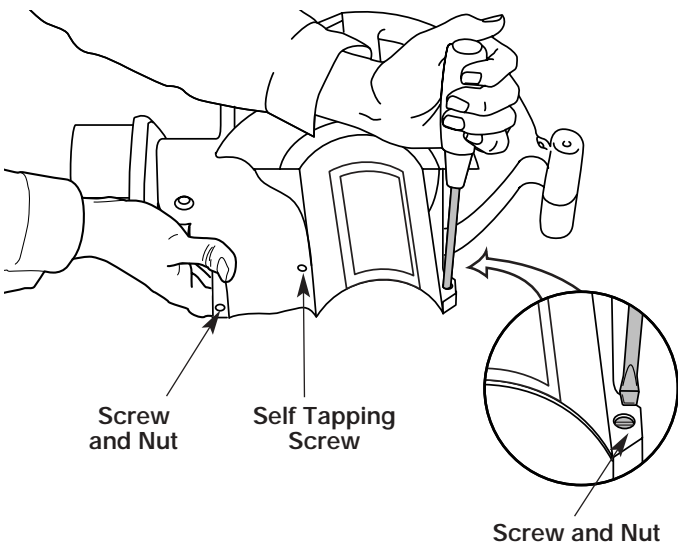

Fig. 2
3. Insert the 2 (two) 8-32 x 3/4" slotted T20 Torx screws into the right side of the motor housing and the 2 (two) nuts into the left side of the motor housing (Fig. 2).
5. Install the 2 (two) remaining self-tapping 8-16 x 3/4" slotted T20 Torx screws into the holes on either side of the housing (Fig. 2). Tighten until snug, do not over-tighten.